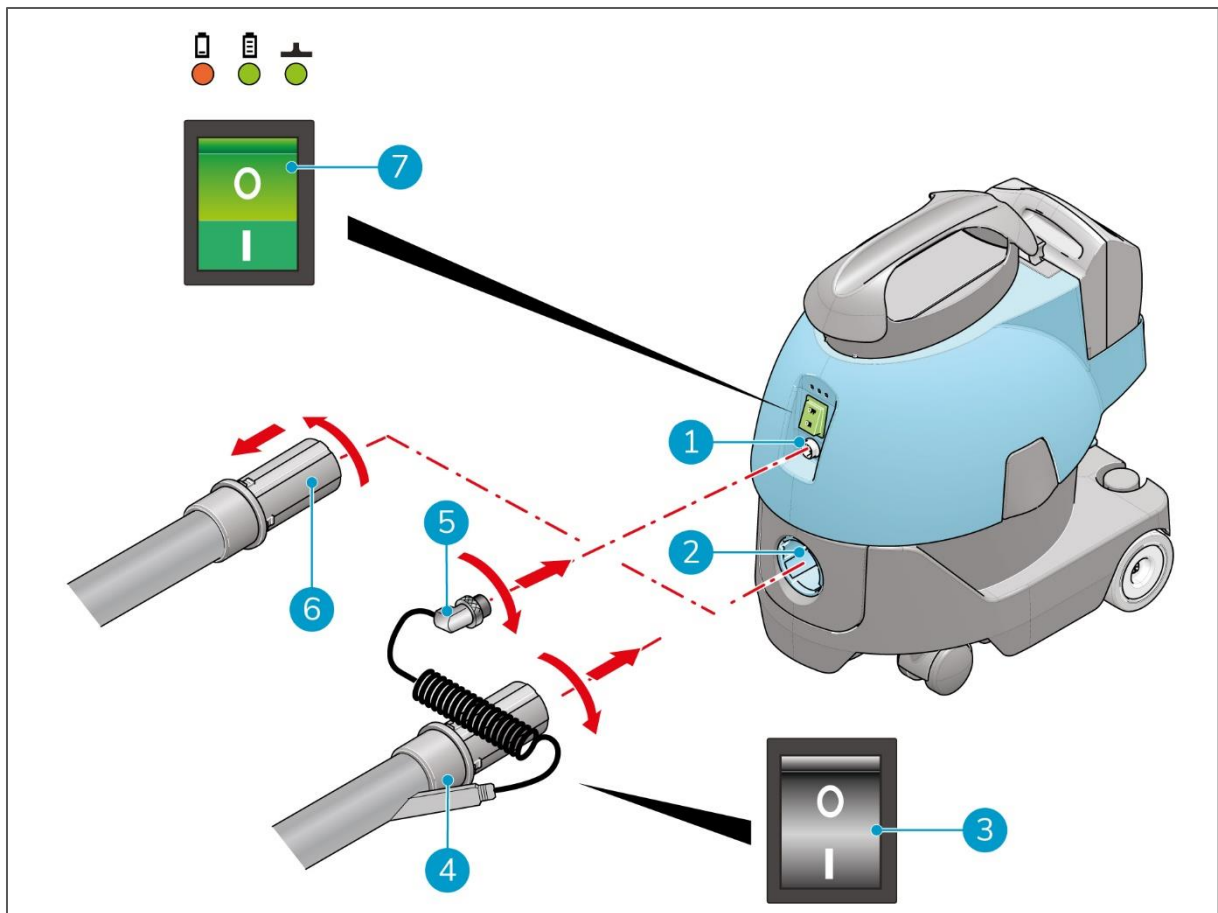

Figure 20
1. Turn the hose of the standard equipment counterclockwise (Figure 20, pos 6).
3. Insert the hose of the i-brush (Figure 20, pos 4) into the hose connector (Figure 20, pos 2).
5. Push the plug from the i-brush (Figure 20, pos 5) onto the connector on the i-vac 5B (Figure 20, pos 1) and tighten the ring of the plug.
6. Press the ON/OFF switch (Figure 20, pos 7) to turn on the i-vac 5B.
7. Press the ON/OFF switch (Figure 20, pos 3) to turn on the i-brush.
1. Press the ON/OFF switch (Figure 20, pos 3) to turn off the i-brush.
2. Press the ON/OFF switch (Figure 20, pos 7) to turn off i-vac 5B.